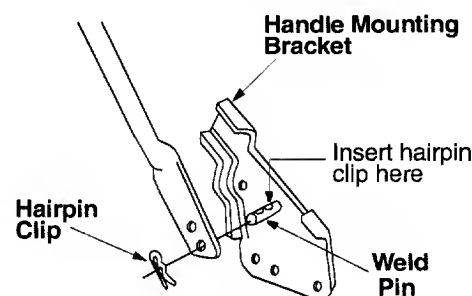

Figure 2
- Using a pair of pliers, squeeze one leg of the lower handle against the handle mounting bracket. Remove the hairpin clips from the outer hole in the weld pins on the handle mounting brackets. Insert the hairpin clip into the inner hole on the weld pin. See Figure 2. Repeat on other side.